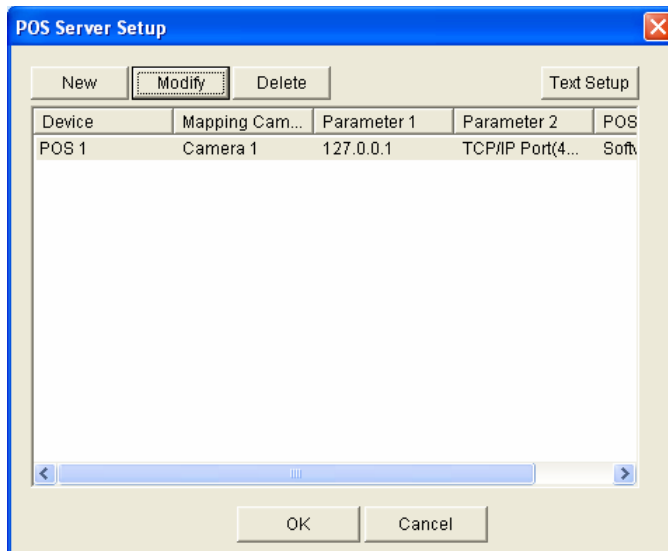

Figure 7-12 POS Server Setup
1. Open the POS Server Setup window (Figure 7-12).